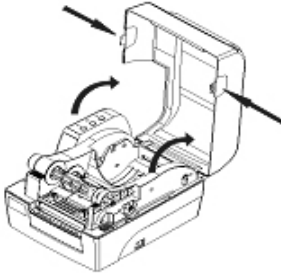

Figure 2.2.1
- 1) Push up the top cover with two hands according to the arrows in figure 2.2.1 and open it;